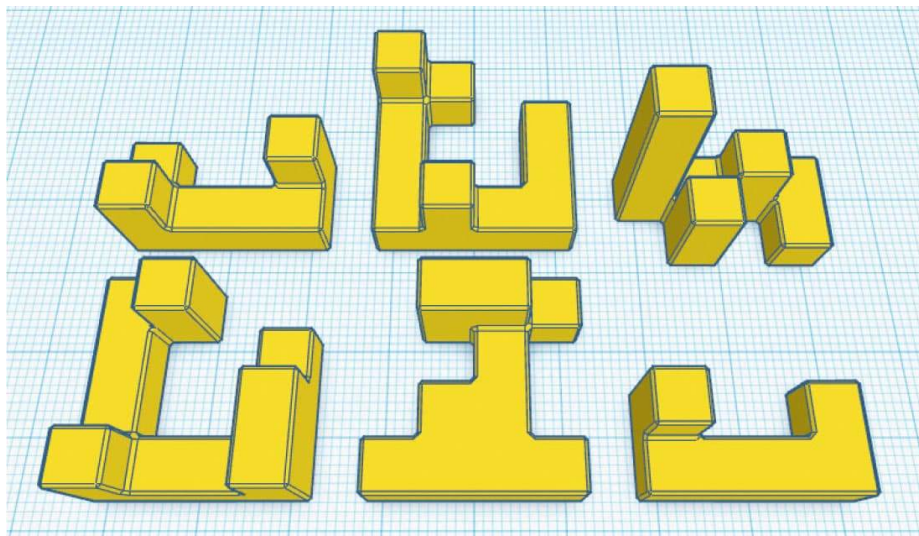

FIG. 2: *The edited puzzle pieces are half the size of the originals.*
5. Make any edits you desire. We edited the puzzle pieces to half their original size (fig. 2).